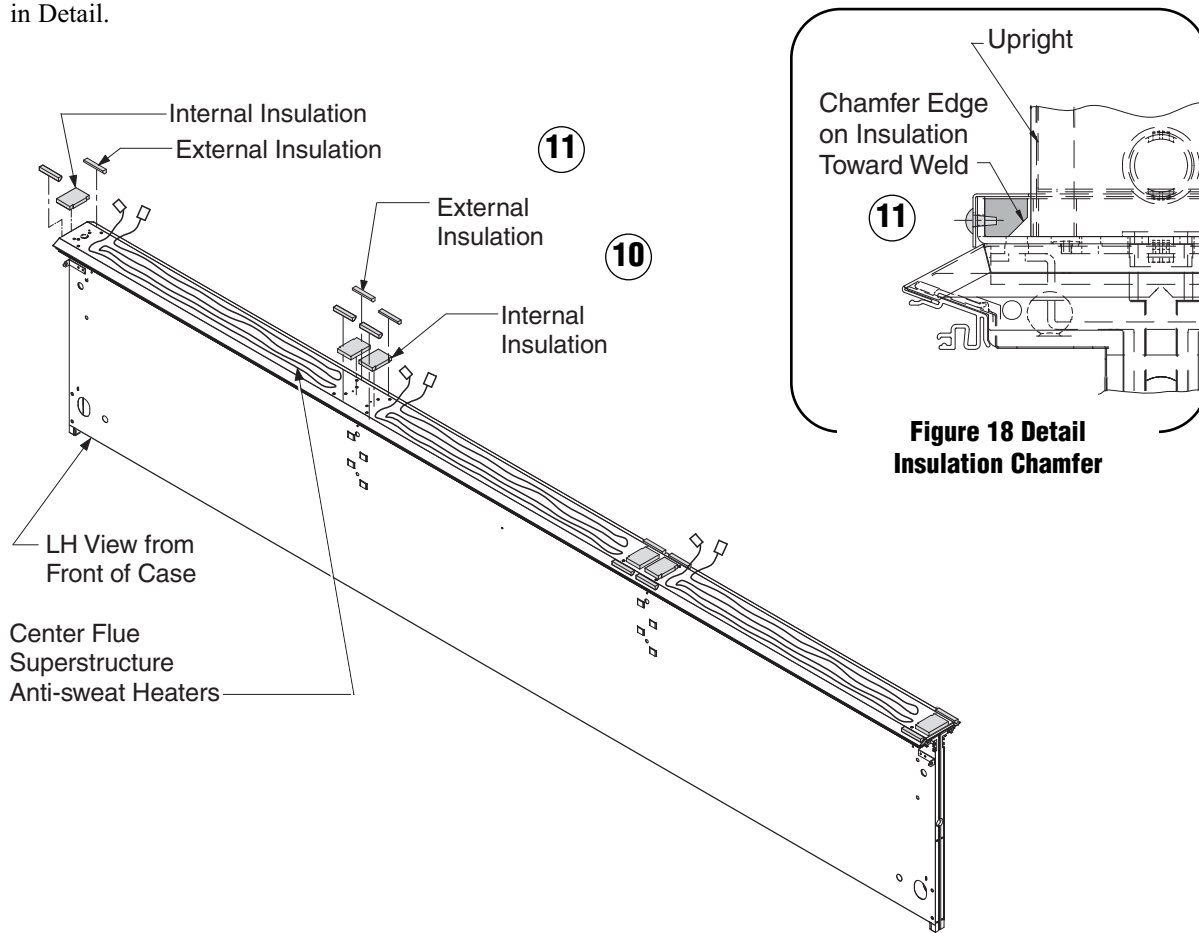

Figure 18 — Install External and Internal Insulation
9. Install *External Insulation* and *Internal Insulation* in bottom of upright as shown in Figure 18.